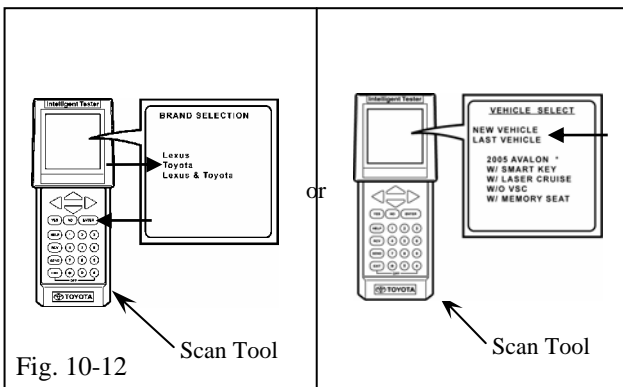

Fig. 10-12
- (m) Make the appropriate selection based on the information below, then press the “ENTER” button. (Fig. 10-12)
- (1) In the case of the left-side screen, select “TOYOTA” in the Brand Selection menu.
- (2) In the case of the right side screen, select “NEW VEHICLE” in the Vehicle Select menu.